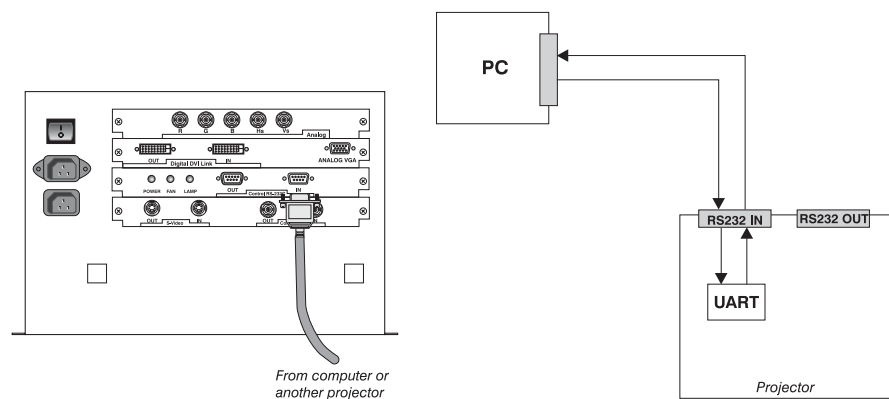

Figure 2.9. Single Projector Connection and Communication Schematic
Connection: Using the appropriate serial communication cable (*see Appendix D*), connect the controlling device (PC) to the serial port labeled **RS-232 IN**. (Figure 2.9.)